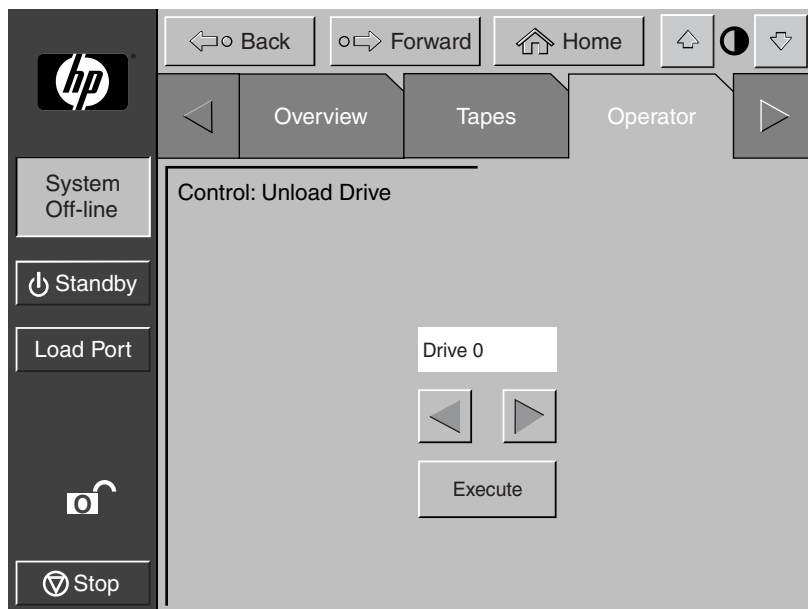

Figure 4-8: Control: Unload Drive screen
1. On the Operator screen, press the **Unload Drive** button. The control panel displays the Control: Unload Drive screen (see Figure 4-8).